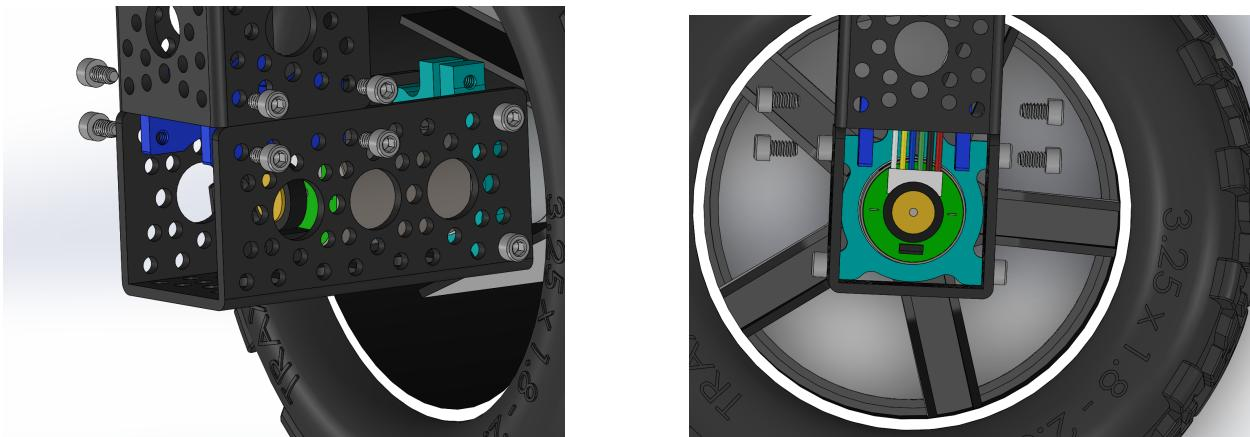

Figure 5: Corner Wheel Step 1
- 1. Channel Attachments 1:** Attach another 3 inch channel **S2** to your base wheel assembly using two channel connectors **S6** as shown in Figure 5.